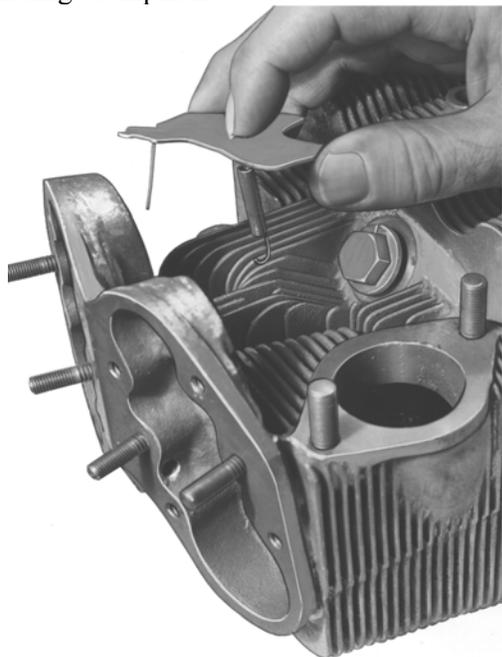

FIGURE 16-17. INSTALLING BAFFLE
4. See Figure 6-15. Install baffles (44) and springs (45) on all cylinders. Install baffle as shown in Figures 16-17 and 16-18. Insert the spring through cylinder. Using another spring or a hook fashioned from stiff wire, hook and pull the spring end over the cylinder fin. Immediately before cylinder subassembly, thoroughly clean the cylinder bore using hot soapy water and a hard bristled scrub brush. After washing, all soap residue must be removed by thoroughly rinsing with hot water. The cylinder must be dried completely and all bare steel surfaces thoroughly coated with clean 50 weight aviation engine oil.